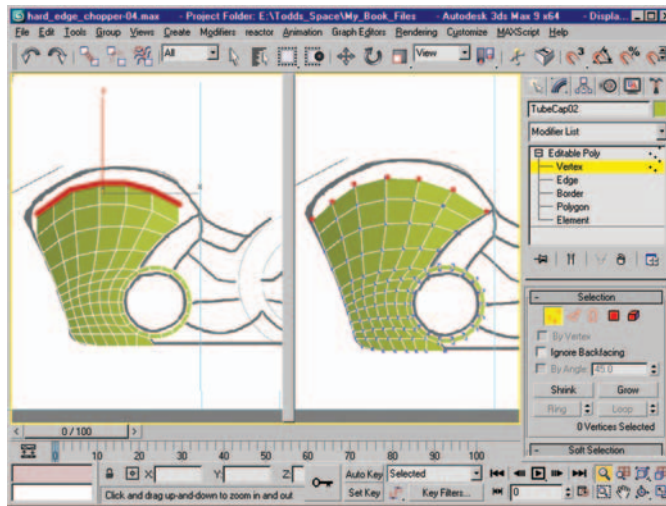

Figure 8.15 Edges after performing shift-drag (left), and mesh after adjusting vertex positions (right).
17. At the Edge subobject level, select the top row of edges and shift-drag them upward to create a new row of polygons. Figure 8.15 (left) shows the edges after being shift-dragged.
18. Adjust the position of the new vertices to match the blueprints with the same method we have used in all of the stages so far (Figure 8.15, right).